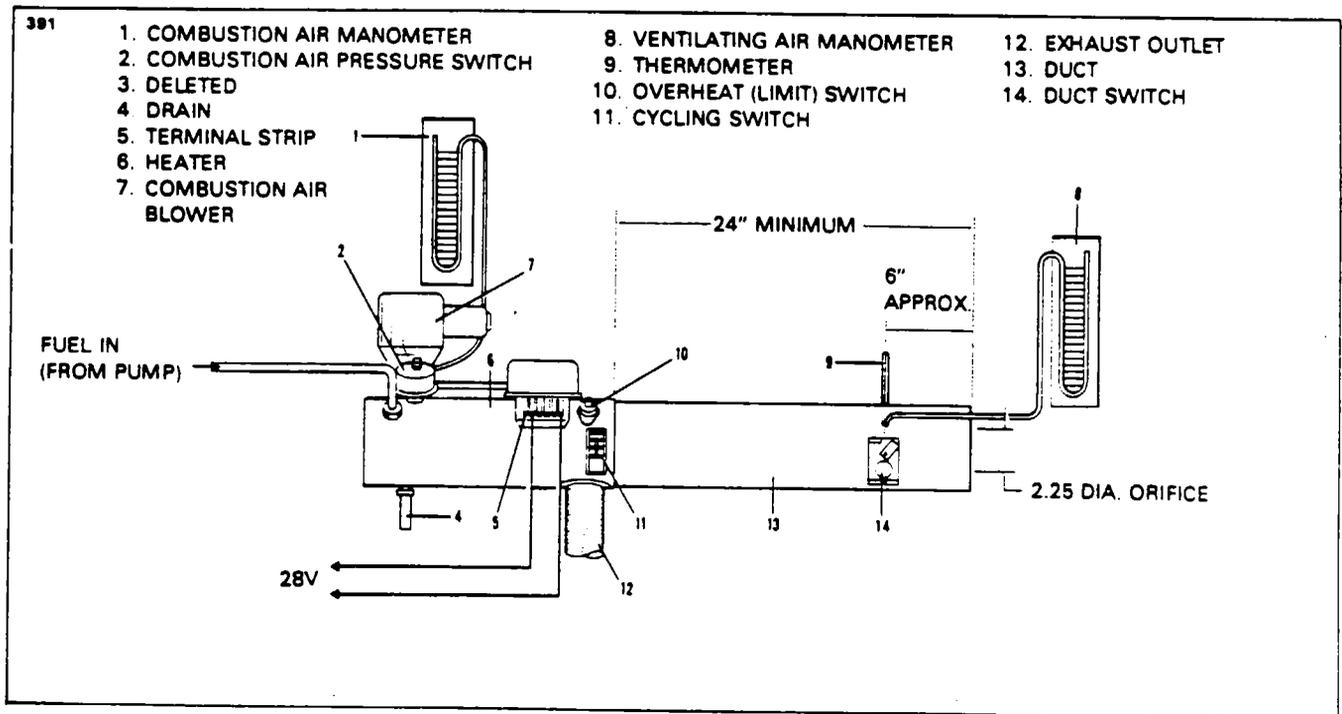

Figure 21-11. Suggested Setup for Heater Operation Test
**EQUIPMENT REQUIRED.** (Refer to Figure 21-11.)
6. A piece of duct to be attached to the downstream end of the heater. It should have a minimum length of 24 inches and the same diameter as the heater being tested. A 2.25 inch diameter orifice should be centrally located at the outlet end. An aperture should be provided for the thermometer and duct switch and a static tap should be attached as shown in Figure 21-11.
**OPERATIONAL TEST.** (Refer to Figures 21-11 or 21-12.)
1. Connect the heater to the test setup as shown in Figure 21-11. Make sure the combustion air blower is mounted securely and that the heater is clamped to its supporting stand.
2. Insert the duct switch in the sheet metal extension tube at the location shown in Figure 21-11.